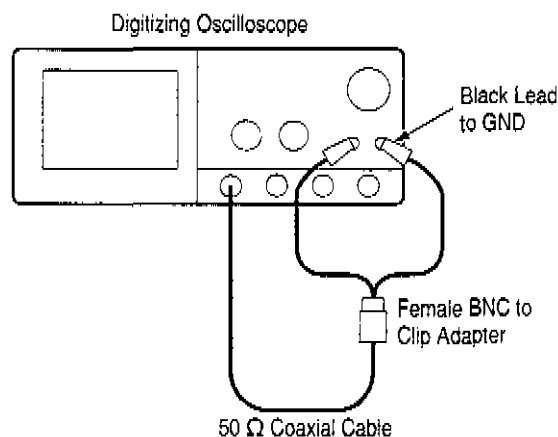

Figure 1-21: Initial Test Hookup
- Connect one of the 50 Ω cables to **CH 1**. See Figure 1-21.
- Connect the other end of the cable just installed to the female BNC-to-clips adapter. See Figure 1-21.
- Connect the red clip on the adapter just installed to the **PROBE COMPENSATION SIGNAL** on the front panel; connect the black clip to **PROBE COMPENSATION GND**. See Figure 1-21.